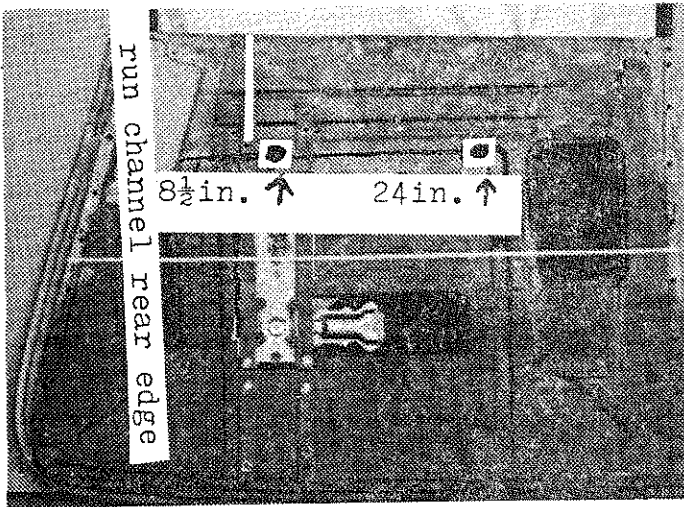

Fig. 5
8. Establish a horizontal line 3 inches above regulator. Measure back 8 inches from front run channel and 24 inches and drill two access holes to help in installing lower roller track retaining screws. 1/2 inch holes are big enough. (Fig. 5)